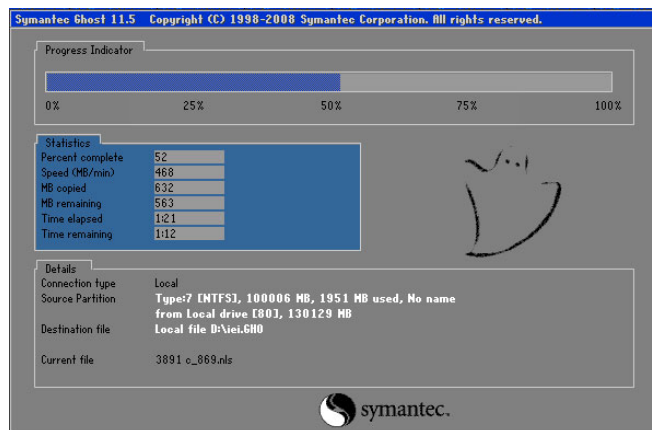

Figure C-19: Image Creation Process
Step 10: The Symantec Ghost starts to create the factory default image (Figure C-19).